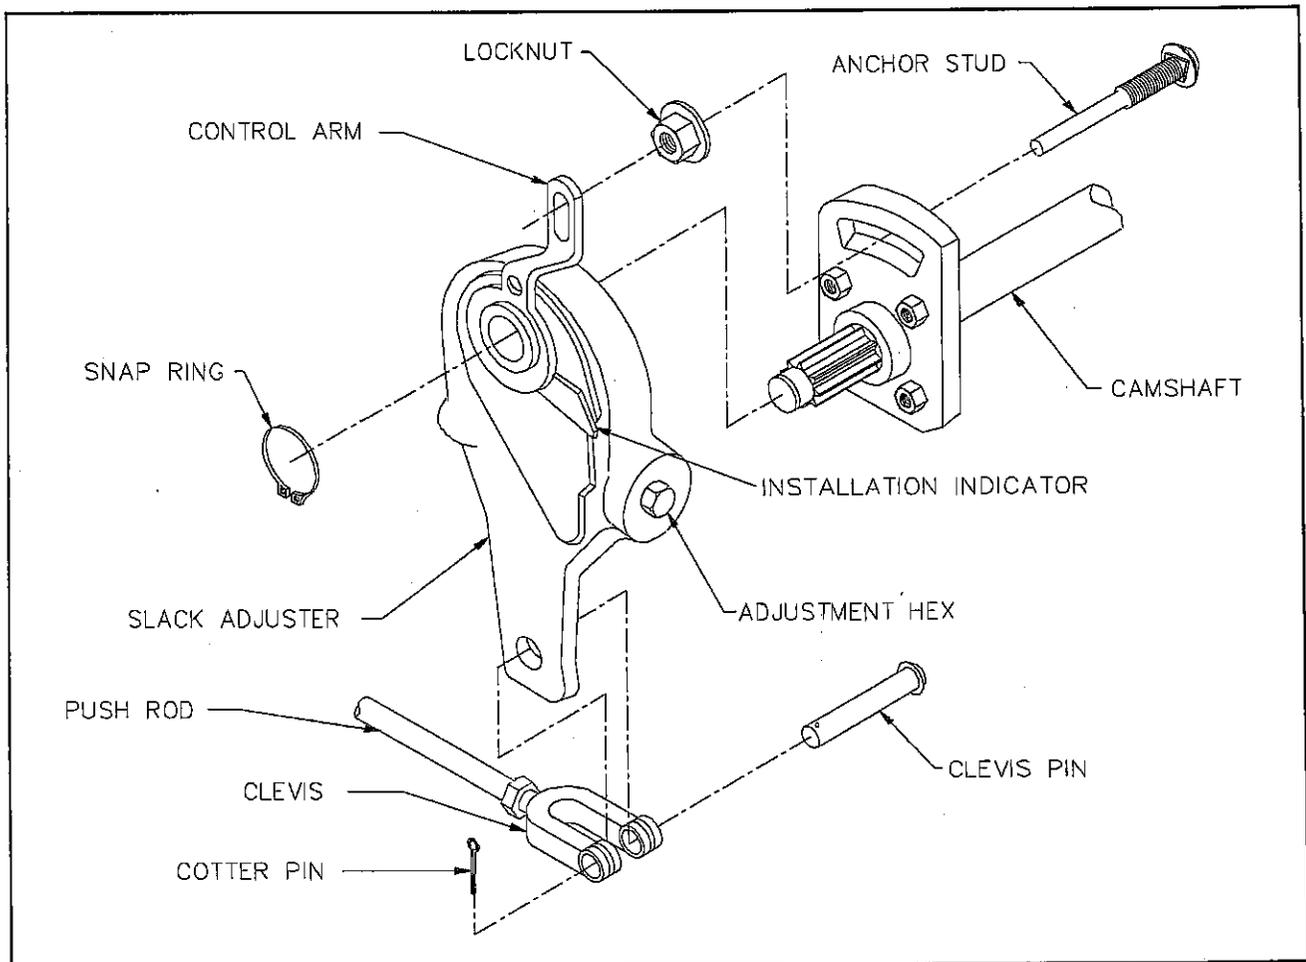

Fig. 4-4 Slack Adjuster
4. Disconnect the slack adjuster from the connecting rod by removing the clevis pin (See Figure 4-4).
4. Remount the brake chamber on the axle brackets and reconnect the air service hoses and the slack adjuster connecting rod (See Figure 4-4).
a. Operational Check (see Figure 4-4)
b. Replacing Slack Adjuster (See Figure 4-4)